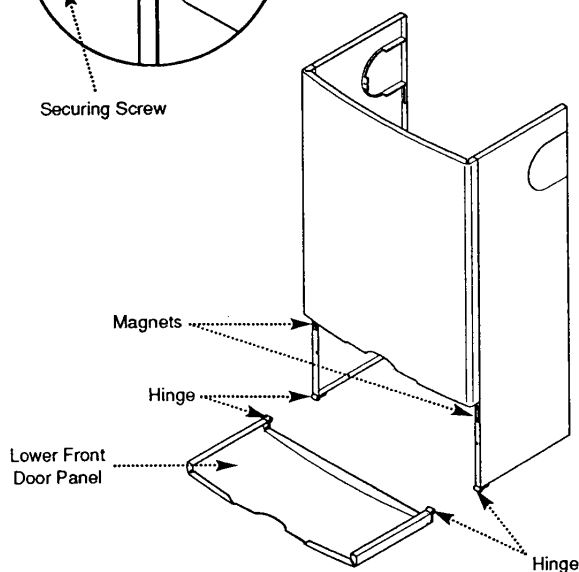

Fig. 93
4. Hinge down the lower door panel to the horizontal and gently pull forward to remove (Fig. 93).